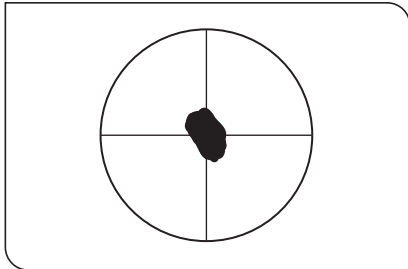

Fig. 2-1
5. Rotate the compensator knob and confirm that the measured portion on the center of the specimen is dark as shown in Fig. 2-1 (Note). If it is not dark, rotate the stage by -90° and clamp.